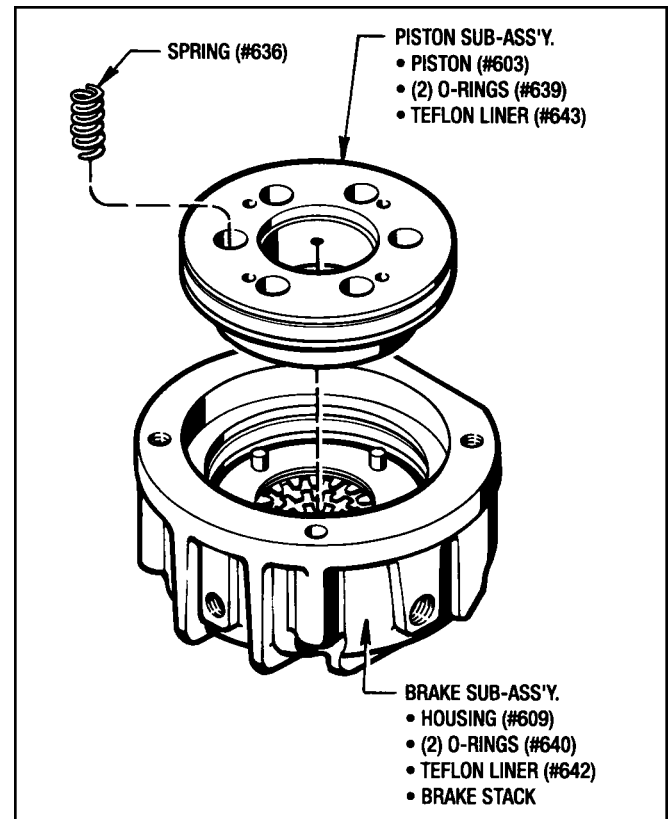

Figure 9.7 - Installing Piston Into Brake
1. Place the Brake End Housing (#609) in an upright position to facilitate Reassembly as shown in Figure 9.7.
5. Lubricate the (2) O-Rings (#640) and install them into the End Housing (#609).
7. Lubricate the (2) O-Rings (#639) and place them on the Piston (#603).
10. Place Piston Sub-Assembly into the housing, aligning the (4) holes in the Piston with the (4) Pins (#657) in the Brake Stack. (See Figure 9.7). Be careful not to damage the Teflon Liners in the housing or the piston.